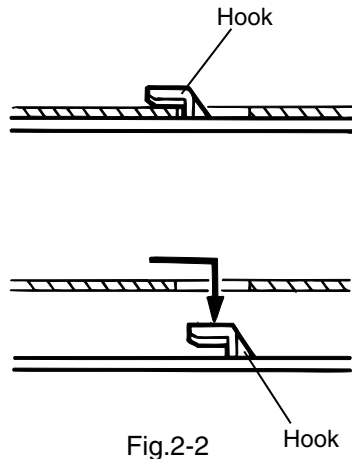

Fig.2-2
4. Slide the right and left covers backward and unhook the two hooks a in the lower part of the side covers as shown in Fig.2-2.